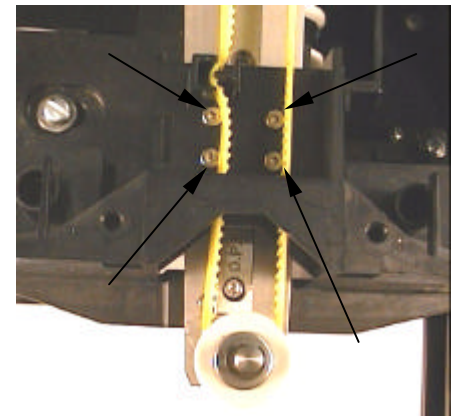

Figure 8-2
5. Loosen the four hex screws shown in figure 8-2 and move the readhead carrier against the fixture. Be sure that the readhead is flush against the fixture.